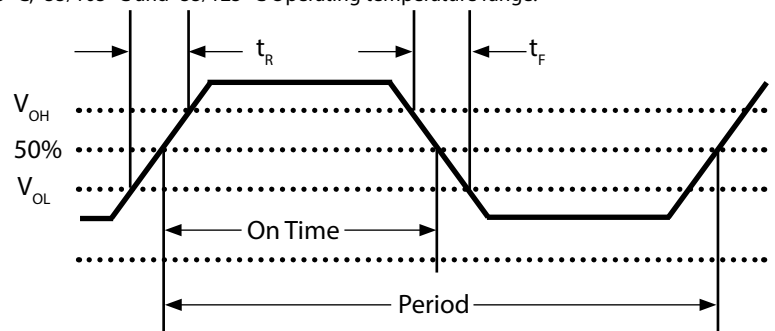

Fig 2: Waveform
- 5) Duty Cycle is measured as On Time/Period, see Fig 2.
- 5] Duty Cycle is measured as On Time/Period, see Fig 2.